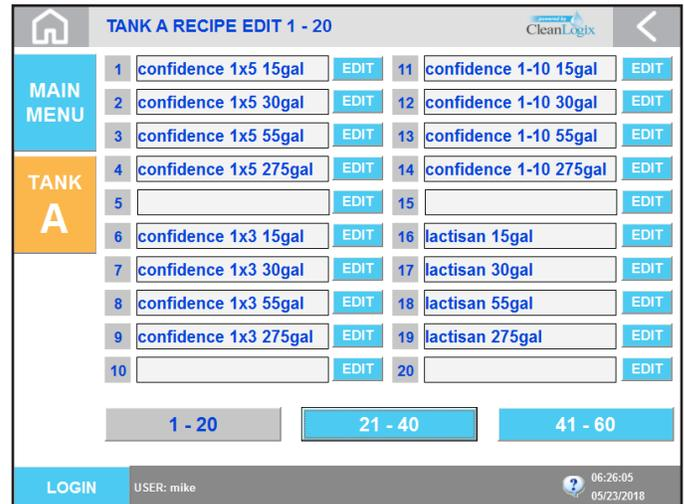

Figure 11.1: Recipe List
2. Click the Home icon and navigate to **TANK A > RECIPE EDITOR** [Figure 11.1].